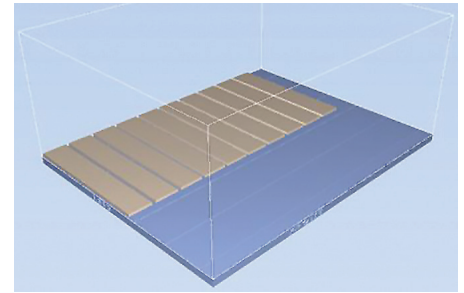
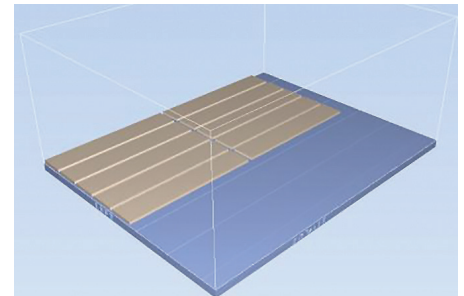

Figure 2: The section requiring the highest planar accuracy (long edge) is positioned along the Y axis.
Figure 3: Long parts positioned along the X axis may curve upward.
- Position the section requiring the highest planar accuracy along the Y-axis (Figure 2). This is because internal stresses may cause the part to curve upwards, and this is less pronounced along the Y-axis (Figure 3).